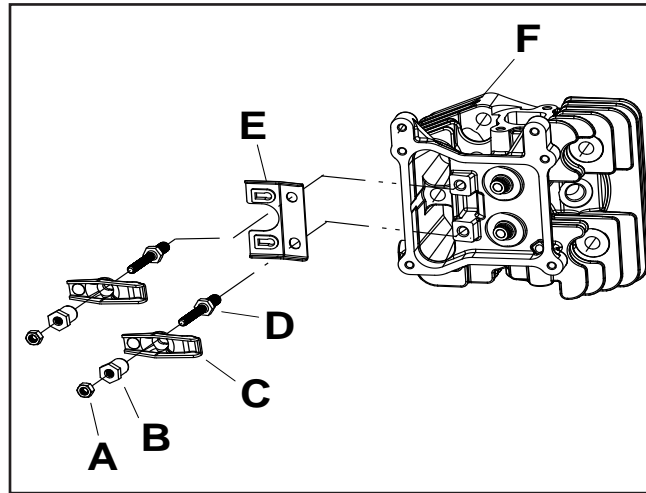

Figure 31
1. While holding the rocker arm pivot (B) (Figure 31), loosen and remove the rocker lock nut (A). Repeat for other rocker.
2. Remove the rocker arm pivot and rocker arm (B and C) (Figure 31). Repeat for other rocker.
3. Remove both rocker arm studs and the push-rod guide plate (D and E) (Figure 31).